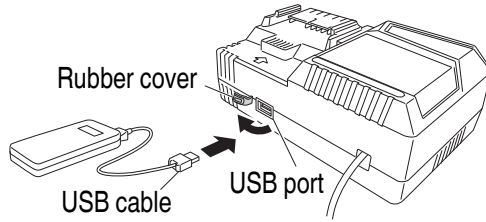

Fig. 37
- (2) Connect the USB cable. (Fig. 37)